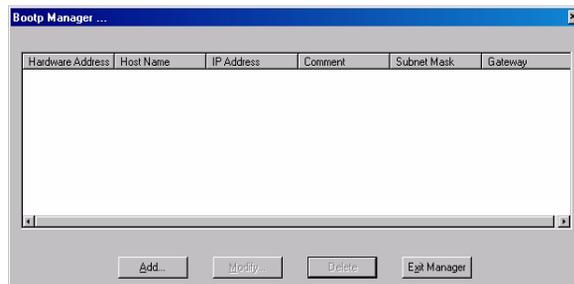

Figure 16 Bootp Manager
- 3 Launch the Manager. It will open the Bootp Manager screen, see Figure 16. This shows all network hardware that has been added (initially empty).
When using this **Bootp** mode, the parameters are not written into the non-volatile memory of the detector. If you delete this Bootp Configuration, the Bootp Manager will show up as shown in Figure 16 on page 28 (**Bootp** mode).